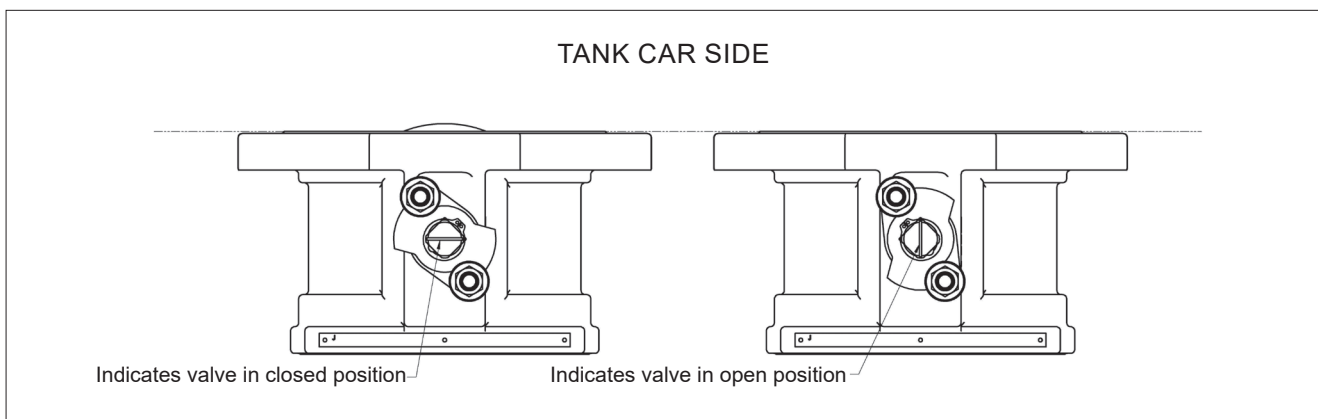

Figure 2.
Remove the flow port protectors and check that the valve is clean inside. Clean valve if necessary. The machined line of the top of the stem (5), is a visual indicator of the ball (3) port position and flow direction. **Figure 2** shows the valve installed on the tankcar. Line horizontal indicates the closed position. Line vertical indicates the open position. This applied to both Standard and FO operation.